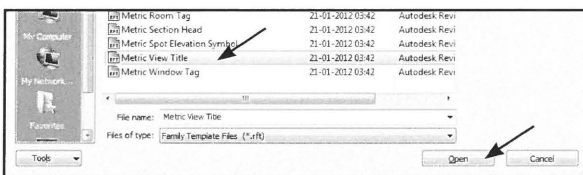

Fig. 03.46. *Metric View Title*.
- Åbn *Templaten* der hedder *Metric View Title* (Fig. 03.46).